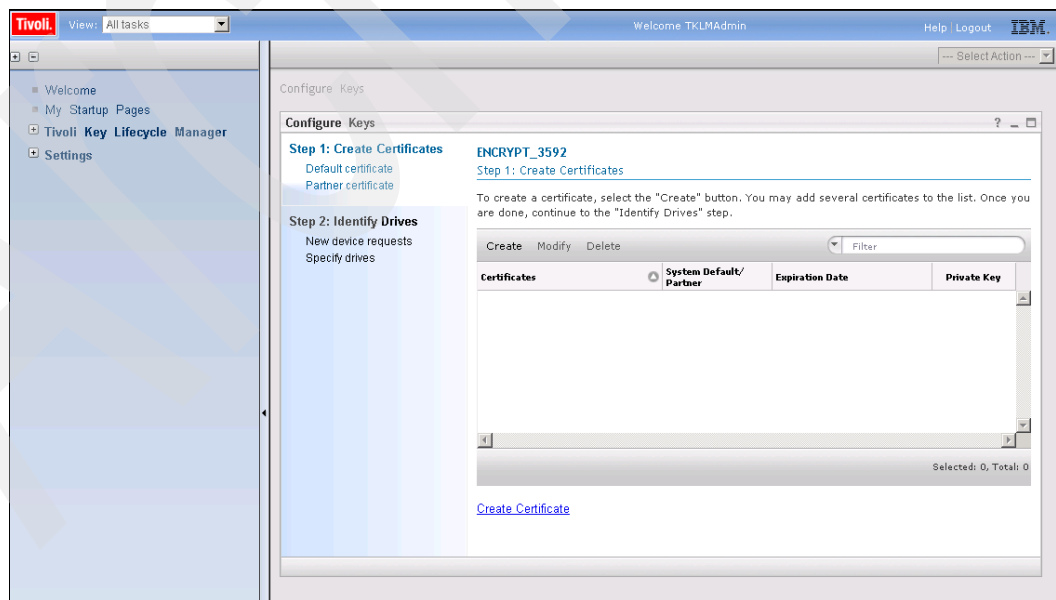

Figure 9-55 Step 1: Create certificates
3. Click **Create certificate** (Figure 9-55).